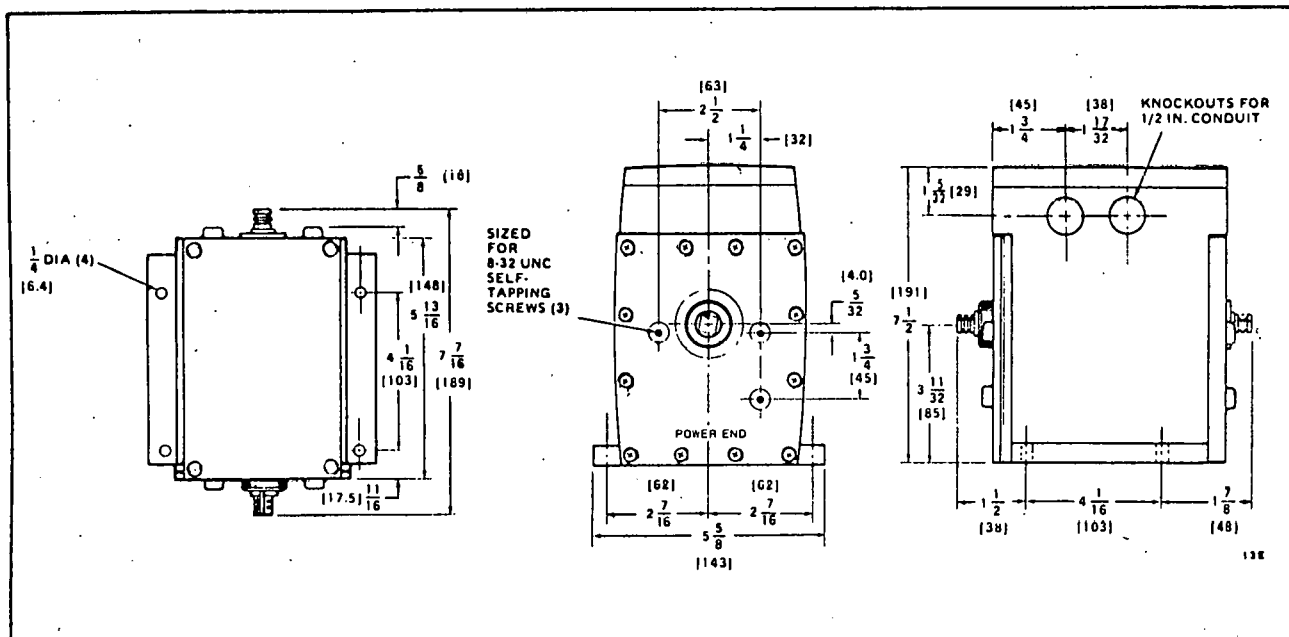

FIG. 1-DIMENSIONS, IN INCHES [IN MILLIMETRES], OF M944 MODUTROL MOTOR.
**CRANKSHAFT:** Double-ended, 3/8 inch square.**DIMENSIONS:** See Fig. 1.**ACCESSORIES:**
Allow enough clearance for installing accessories and servicing the motor when selecting a location. See Fig. 1.